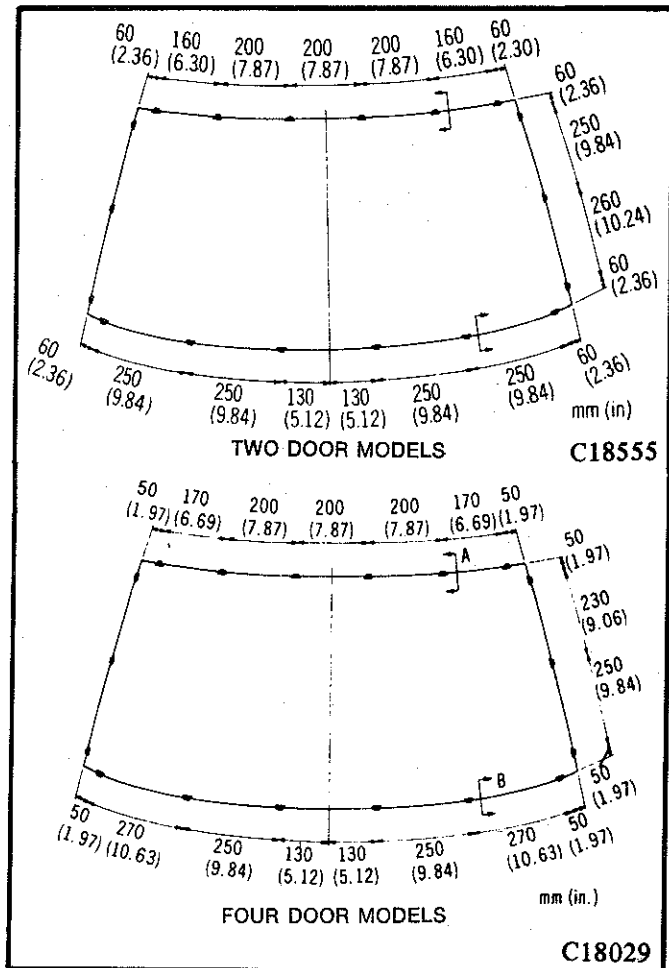

Fig. 4—Attachment clip position
(3) Position the moulding attachment clips as shown in Fig. 4. Prime the section of the clips, that come in contact with the butyl tape, with glass primer.